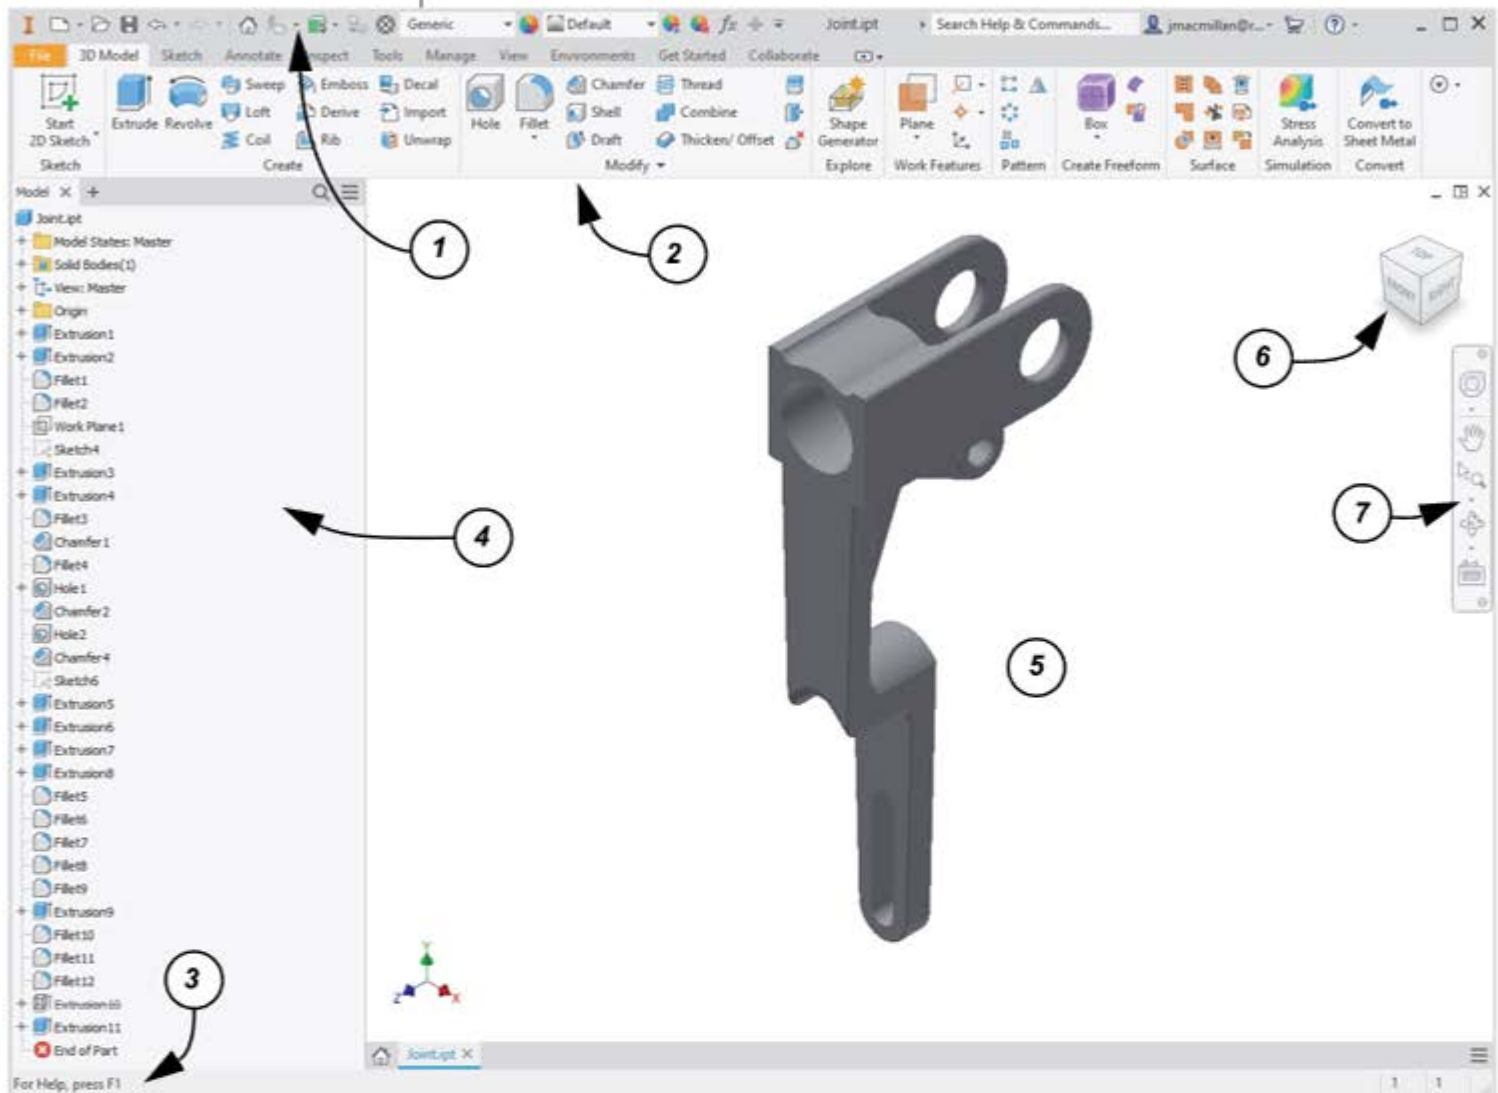

Figure 1–52
1. Match the numbers shown in Figure 1–52 with the interface components listed below.